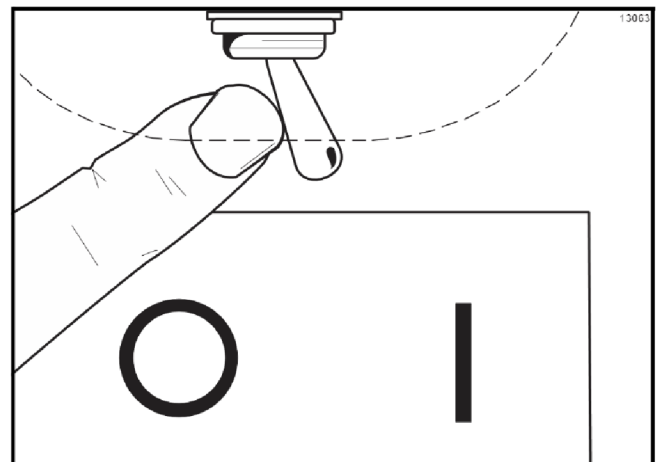

Figure 5-13
- Press the WASH button (Figure 5-13.) to allow water and sanitizing solution to flow from the hopper down through the freezing cylinder. Water and solution can then be discharged which will clean out any remaining residue